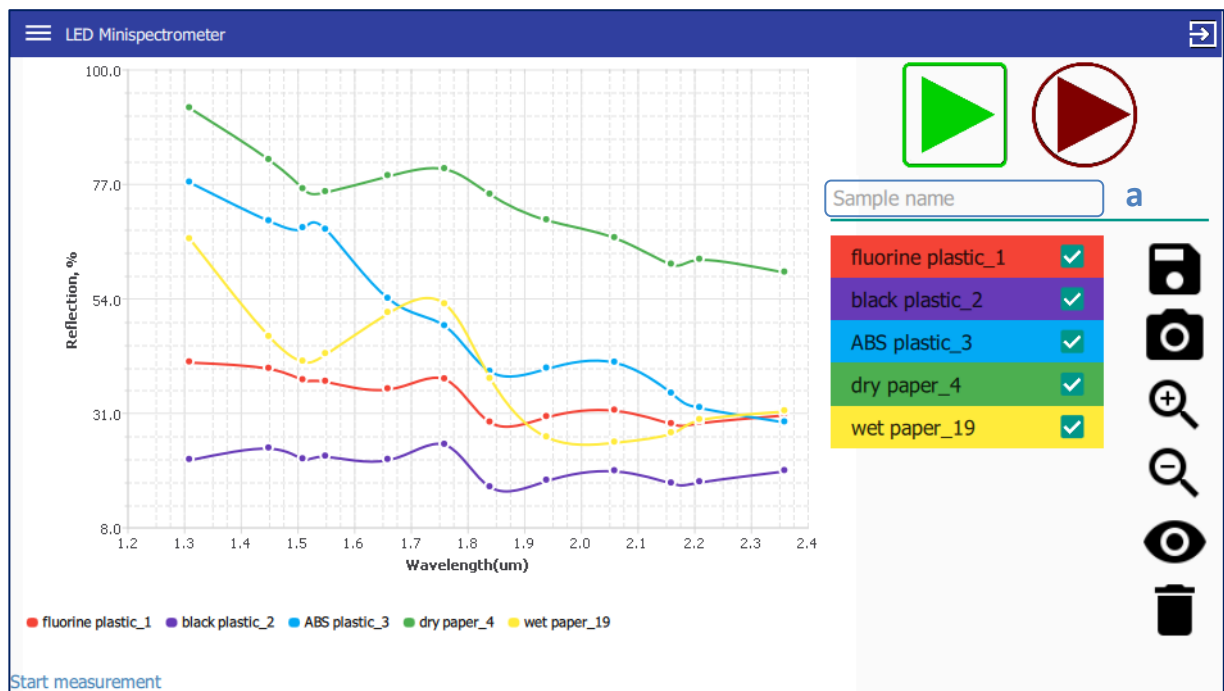
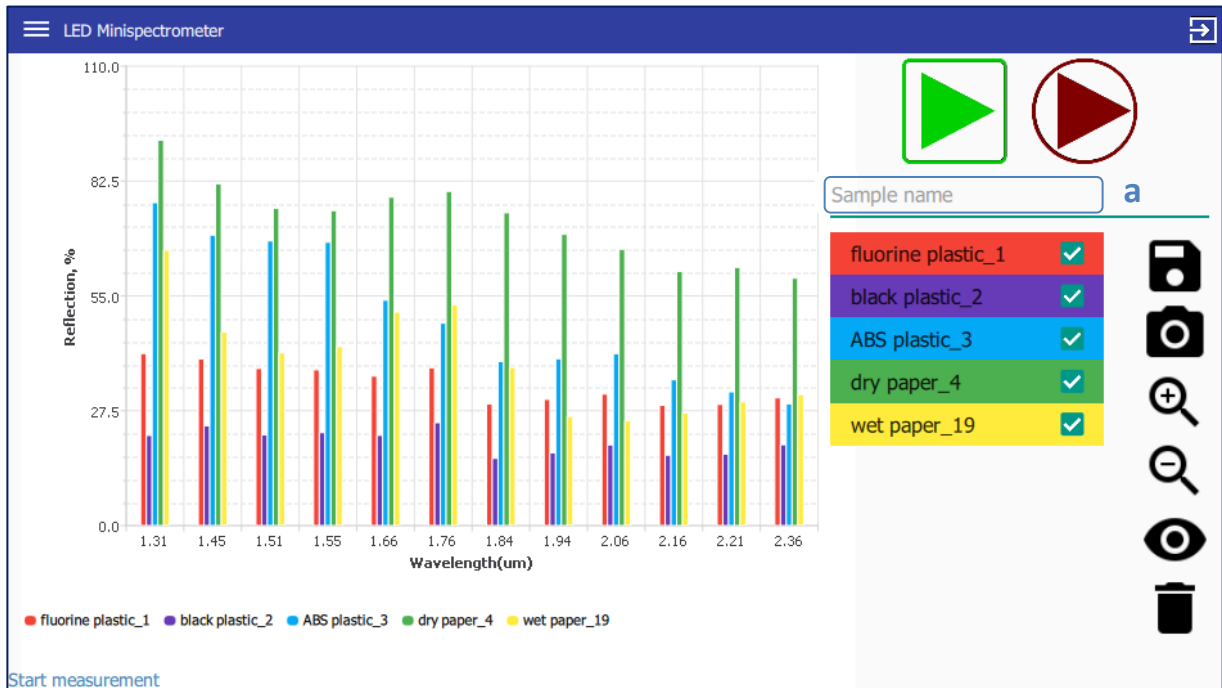

Fig.6. Results displaying as spectral curves.
Fig.7. Results displaying as histogram.
Measurement results will be plotted on the main program window as spectral curves (fig. 6) or as histograms (fig. 7) depending on the chosen data display mode.
- ✓ If needed, you may put in the sample name before running the measurement in the text field “Sample name” (fig.6,7, a).